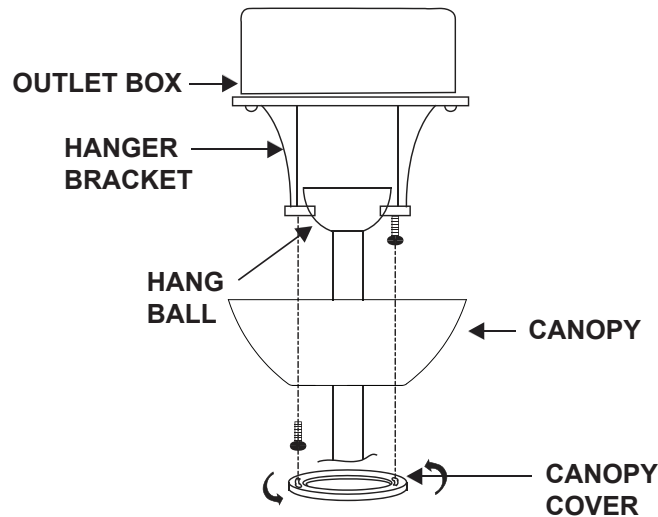

FIG. 14
Step 1. Remove 1 of the 2 screws from the bottom of the hanger bracket and loosen the other one half a turn from the screw head. (Fig.14)